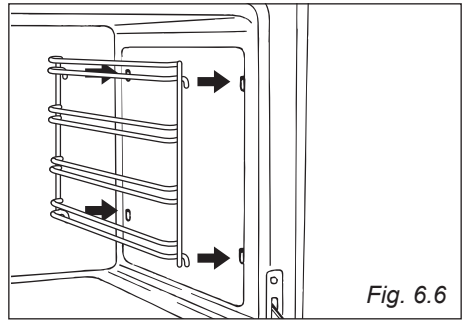

Fig. 6.6
- Fit the side runner frames into the holes on the side walls inside the oven (fig. 6.6).